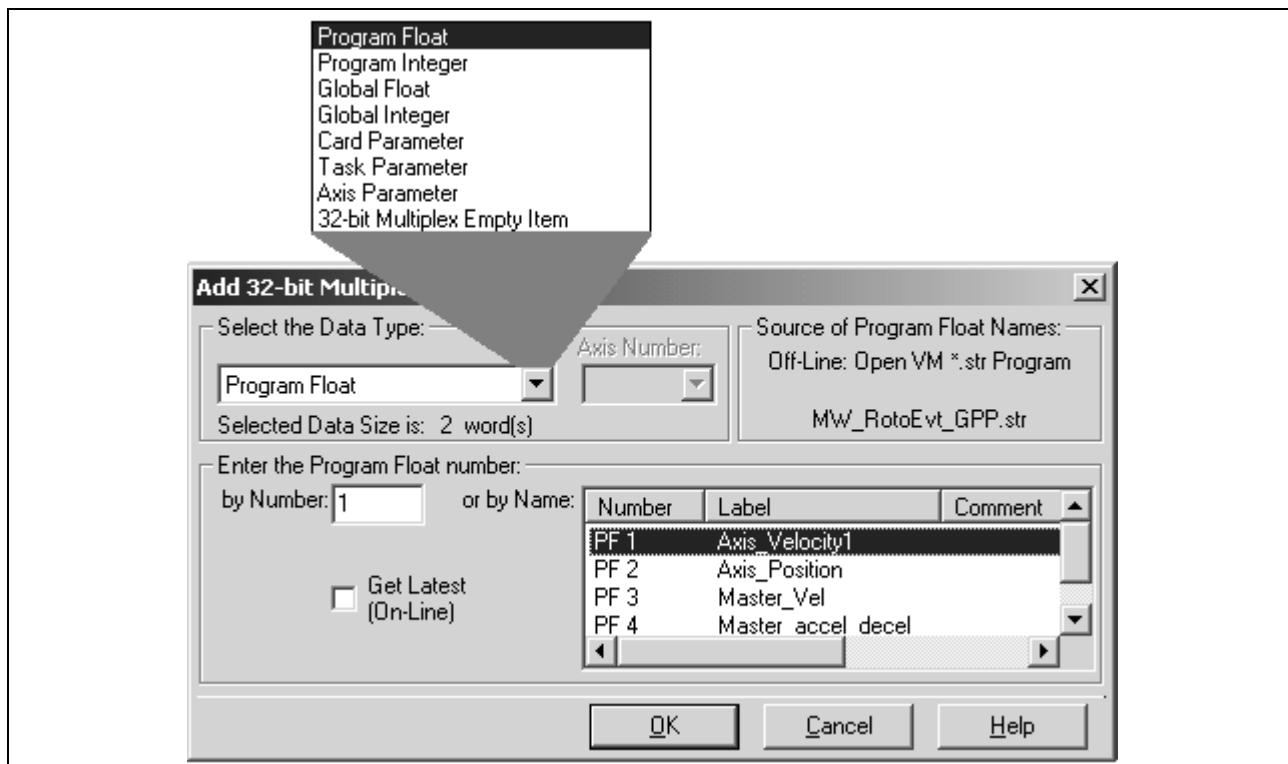

Fig. 7-15: Adding a Multiplex Item to the Container (32-bit example)
3. To add to the selected multiplex container, click No. The screen in *Fig. 7-15* below is an example for adding a 32-bit multiplex item.